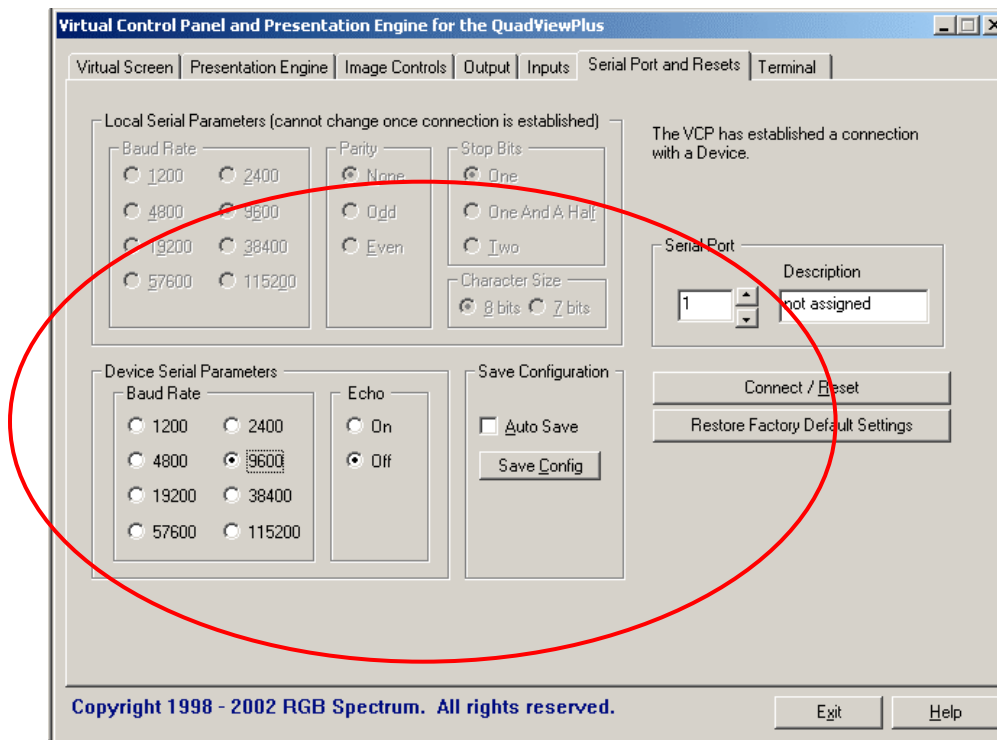

Figure 2. QuadView Plus VCP Serial Port Menu
1. Select the VCP "Serial Ports and Resets" tab shown in **Figure 2** above.